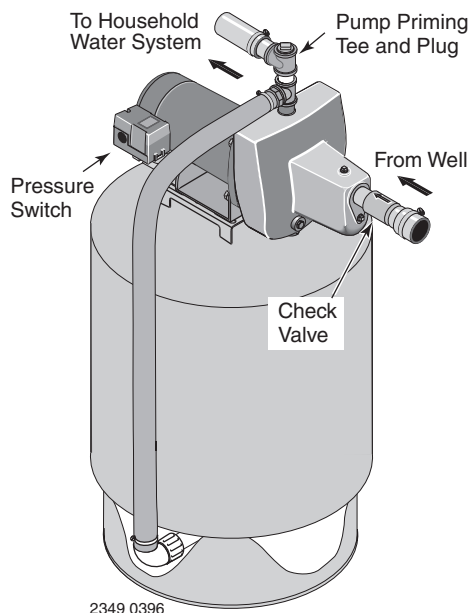

Figure 4: Pre-charged Tank Connections
PRE-CHARGE TANK CONNECTION (Figure 4)
Step 1. Install two tees in the pump discharge port (see Figure 4). The pipe size must be at least as large as the discharge port.